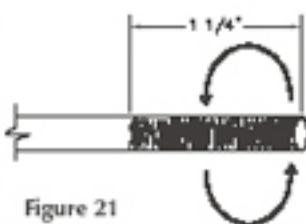

Figure 21
1. **SAND THE END** (Fig. 21) of the plastic water supply tube. **FAILURE TO DO SO MAY RESULT IN LEAKS.** Use medium sandpaper (not provided) approx $1\frac{1}{4}$ " from the end in a rotating motion. This assures a non-slipping, trouble free connection.
2. **SAND THE END** (Fig. 21) of the plastic water supply tube. **FAILURE TO DO SO MAY RESULT IN LEAKS.** Use medium sandpaper (not provided) approx $1\frac{1}{4}$ " from the end in a rotating motion. This assures a non-slipping, trouble free connection.